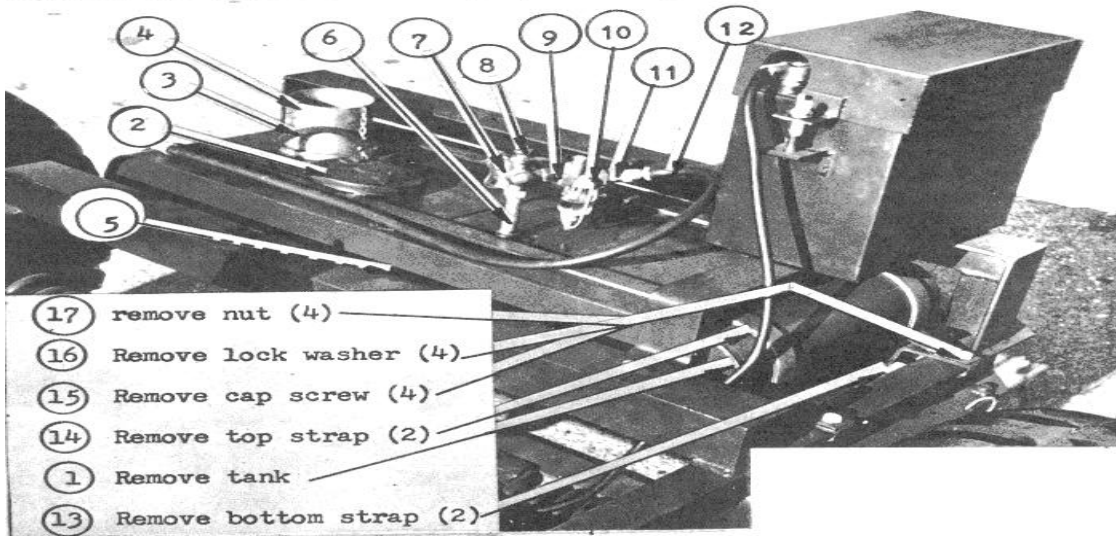

Figure 3-9. FUEL SYSTEM 2 R OVAL AND INSTALLATION
a. Removal - Refer to para. 3-18 and remove pump with engine. Refer to Fig. 3-9 and remove the fuel tank lines, and fittings.
1. Refer to Fig. 3-9 and install the fuel tank, lines, and fittings.
a. Removal and Disassembly - Refer to Fig. 3-9 and remove the fuel filter.
c. Reassembly and Installation - Refer to TM 5-2805-259-14 and reassemble the fuel filter. Refer to Fig. 3-9 and reinstall the fuel filter.